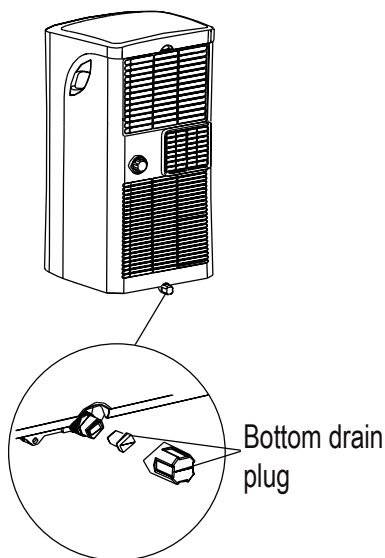

Fig.8
- Under dehumidifying mode, when the water level of the bottom tray reaches a predetermined level, the unit beeps 8 times, the digital display area shows "P1". At this time the air conditioner will stop immediately. However, the fan motor will continue to operate (this is normal). Carefully move the unit to a drain location, remove the bottom drain plug and let the water drain away (Fig.8). Re-install the bottom drain plug and Restart the machine until the "P1" symbol disappears. If the error repeats, call for service.